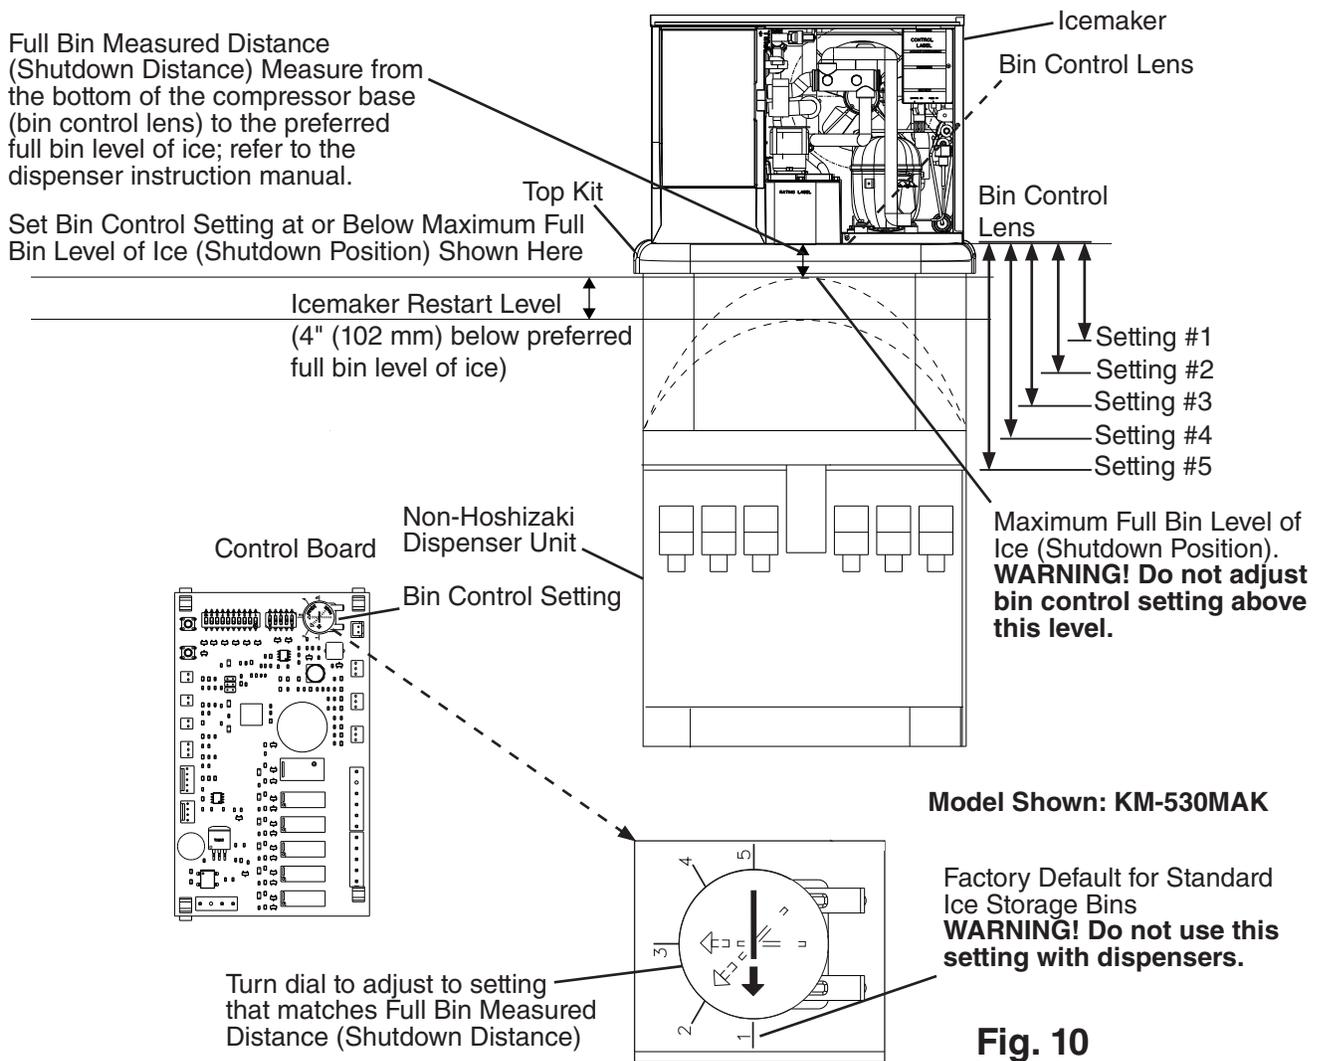

Fig. 10
- 2) Confirm the correct control board bin control setting required for your application and adjust according to the following tables. See Fig. 7 through Fig. 10.
b) **KM-330_530_730MAK, KM-930MAK2, and KM-1130MAK2.** See Fig. 10.